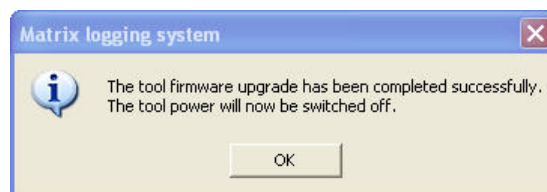

Figure 6-5 Successful upgrade
5. Once the upgrade has been successfully completed (Figure 6-5), click on **OK** to turn off the tool.